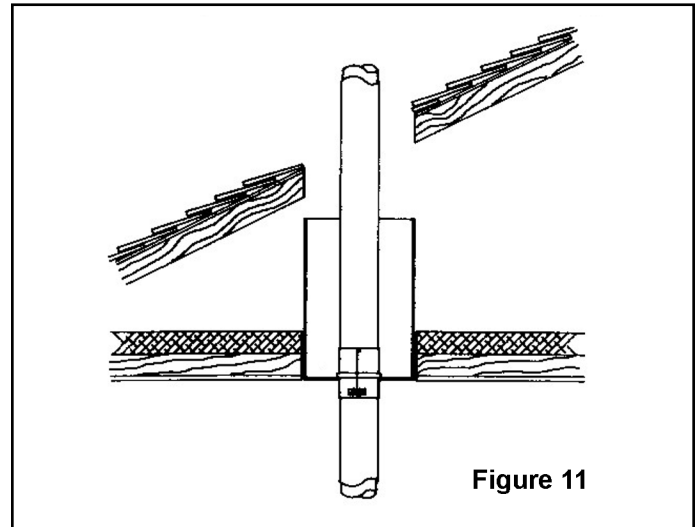

Figure 11
The Roof Support (PSV-RS-BK) is capable of supporting a maximum of 30 feet of Pellet Vent. The roof support is 10½ inches square and will fit through a rectangular-shaped opening. One side of the opening will be 10⁵/₈ inches, and the other will depend upon the pitch of the ceiling--the steeper the pitch, the wider the opening. The support does not need to protrude below the ceiling on all four sides, provided that the required 3-inch clearance is maintained (Figures 11 and 12).
The roof support may be nailed to ceiling joists and terminate inside an attic space. This type of installation may not require any cutting of the support. Use this method for flat ceilings to provide an insulation dam in the attic space (Figure 11).
2. Lay out and cut the opening in the ceiling. Use a carpenter's square and a level, and measure carefully to develop the layout. Make sure the support is level and fits the opening (Figures 11 and 12).